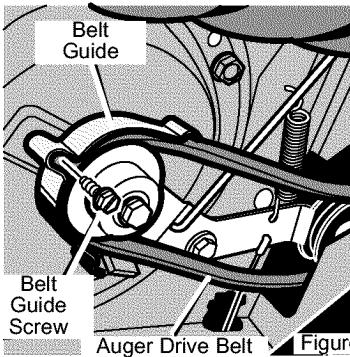

Figure 18
4. Remove the **belt guide screw** and the **belt guide** (See Figure 18). To remove the **belt guide**, rotate the **belt guide** down.